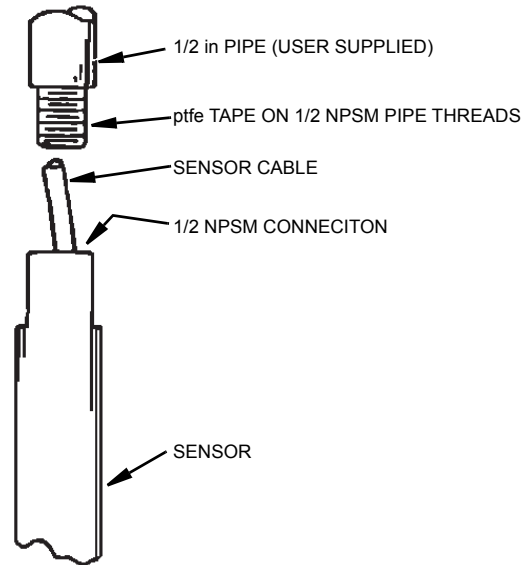

Figure 7. Submersion/Immersion Installation
1. Wrap ptfе tape on the 1/2 NPSM pipe threads. See Figure 7.